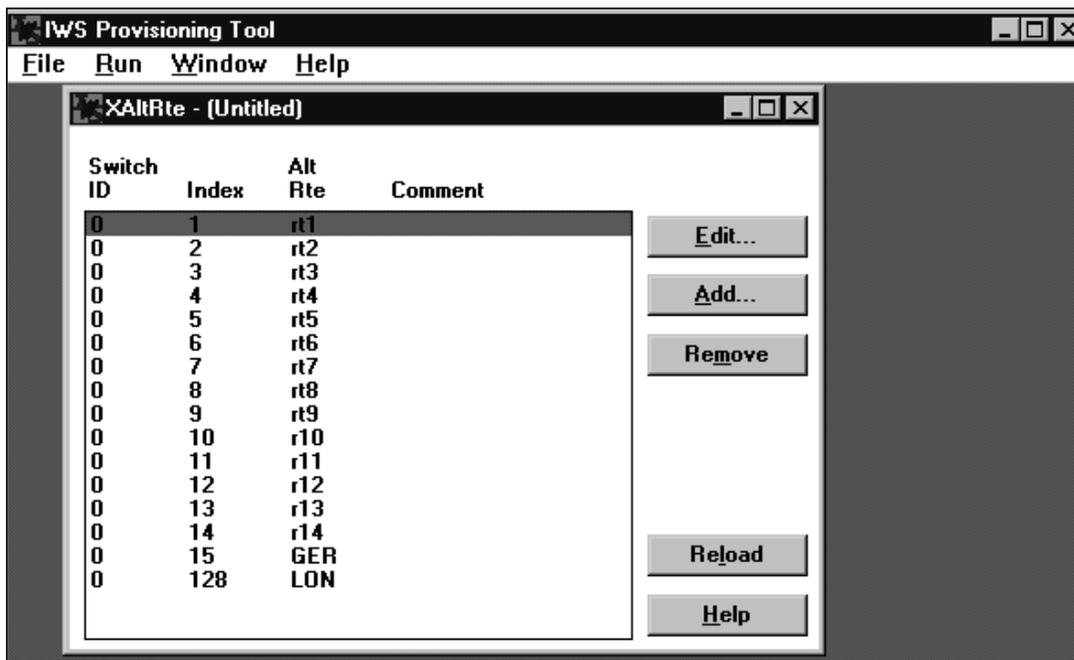

FIGURE 111. Example of a table file dialog box
4. Select a file from the listing; for example, file XAltRte. (See Figure 111.)